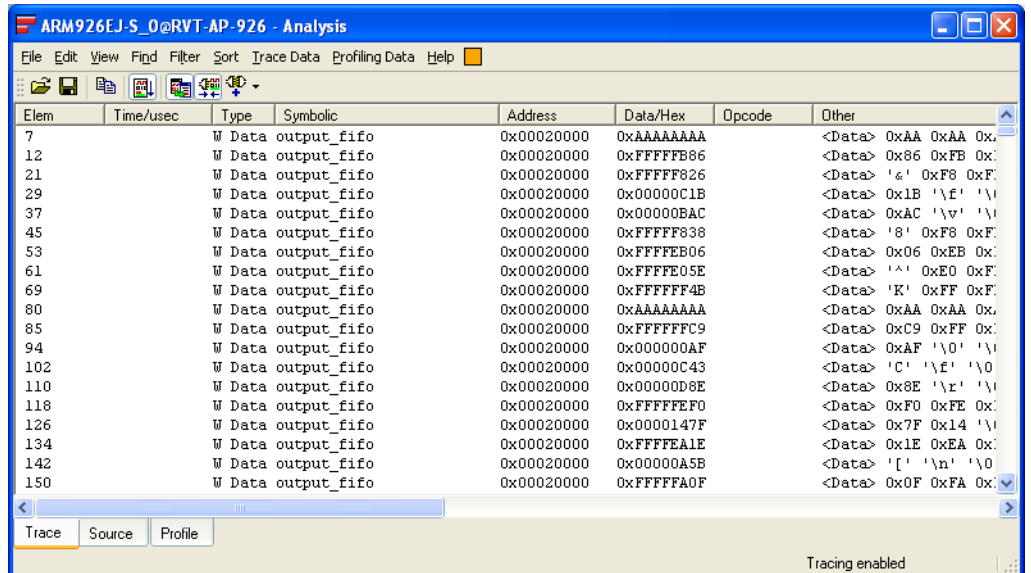

Figure 10-57 Filtered address in the Trace view
- Click **Filter**. The dialog box closes, and the filter is applied. That is, only those elements with the address 0x20000 are displayed. Figure 10-57 shows an example: